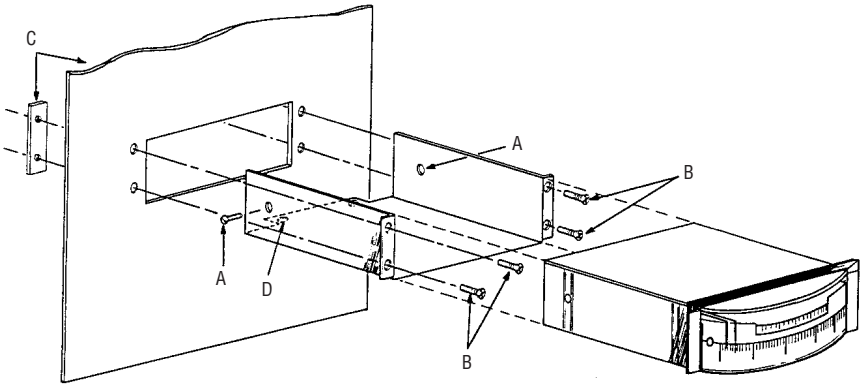

Figure 2.2 Installation of ADF-7
- Step 2 Refer to Figure 2.2. Remove screws (A) from the sides of the meter and separate meter from tray.
- Step 3 Secure meter tray to panel by fastening screws (B) through the tray flange and panel to mounting tabs (C).
- Step 4 Slide meter into the tray and secure by replacing screws either into the side of the meter through holes in the side of the tray (A), or through mounting holes on tray tab (D) into tabs at the lower back edge of the meter (not shown).